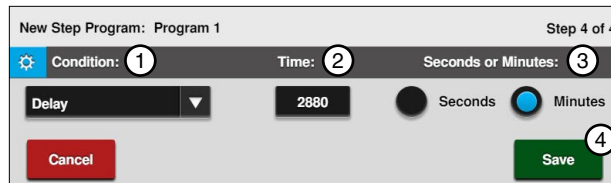

Figure 131-1 1. Delay Condition 2. Delay Time 3. Minutes or Seconds 4. Save
11. Program the delay time condition for this step. Refer to Figure 131-1.